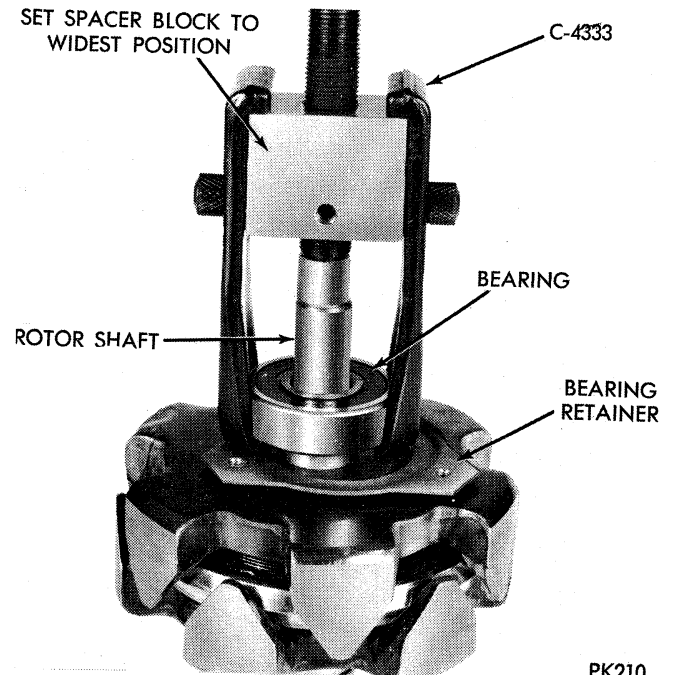

Fig. 55—Removing Drive End Shield Bearing
- (6) The drive end shield bearing is an interference fit with the rotor shaft. Remove bearing with Puller Tool C-4333 (Fig. 55). Position spacer block of tool in widest position.